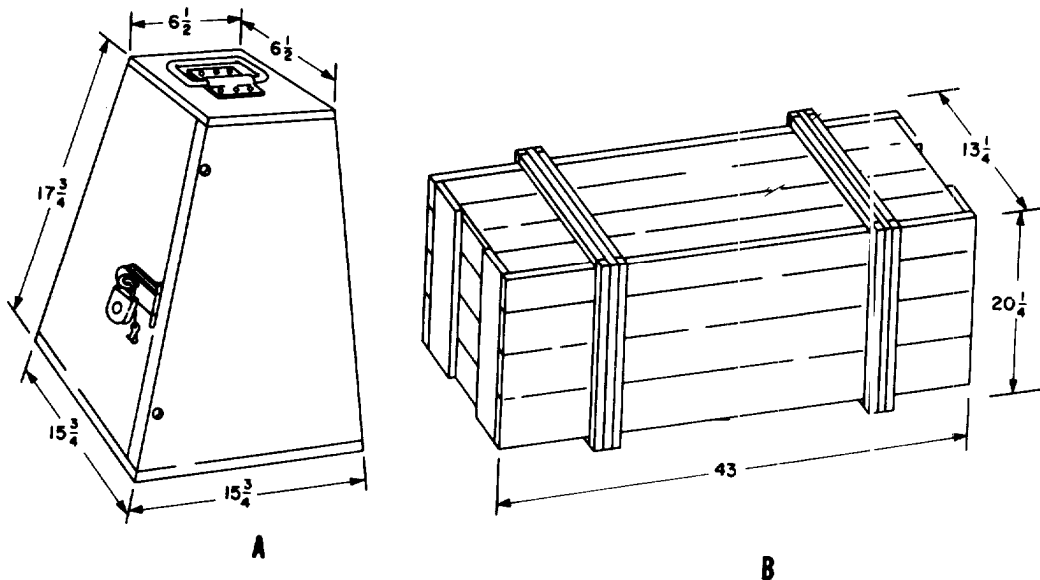

Figure 1-9. Shipping cases, with dimensions.
(2) *Dimensions and weights.* Refer to figure 1-9 for illustrated shipping dimensions.